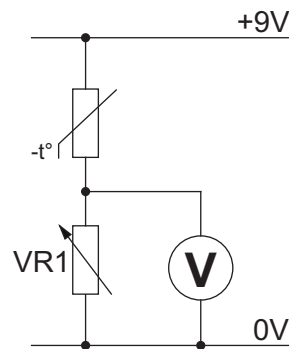

Fig. 11.1
- 11 Fig. 11.1 shows a temperature sensing transducer to be used in a controller for a cooling fan.